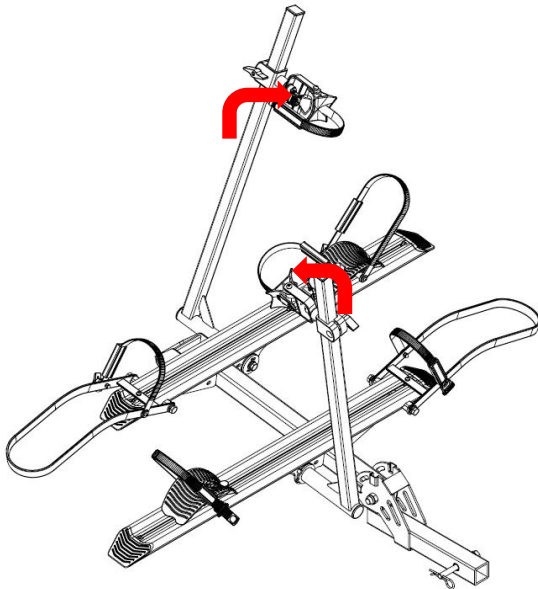
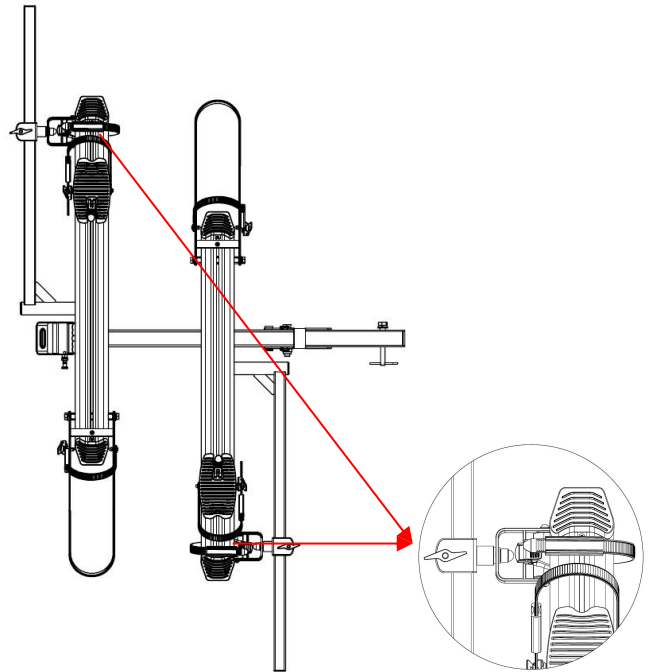

FIG 1
FIG 2
STEP 1: First rotate the adjusting tube assemblies on both sides of the bicycle frame horizontally (as shown in Figure 1), and then fix the adjusting support assembly on the beam assembly with a tension strap (as shown in Figure 2).